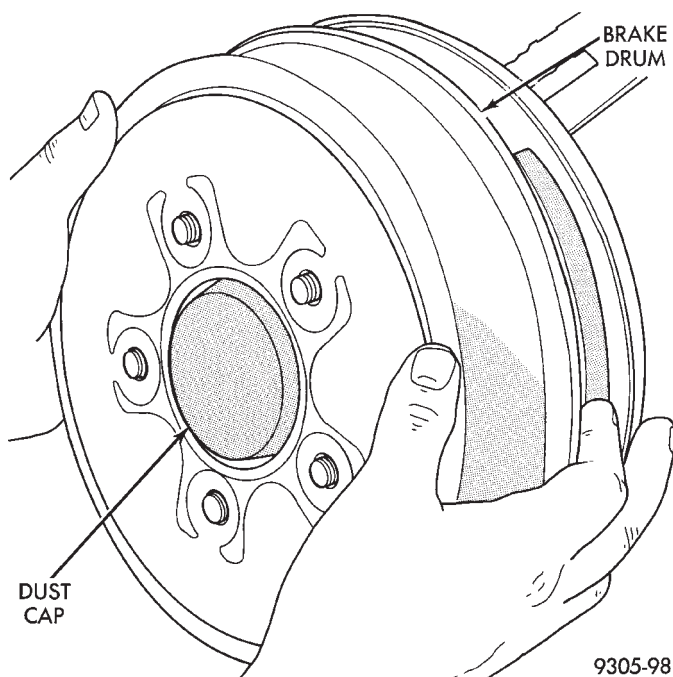

Fig. 64 Rear Brake Drum
- (5) Remove rear brake drum from rear hub and bearing (Fig. 64).